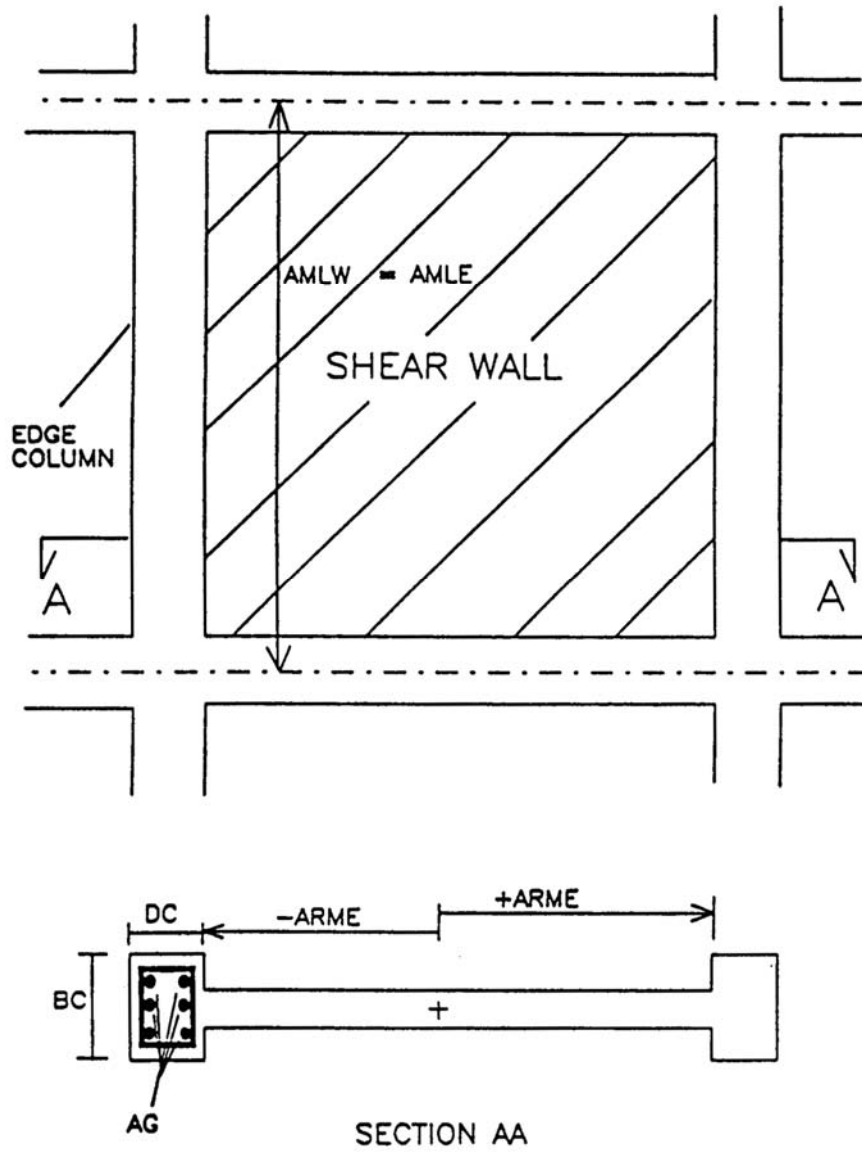

Fig. A-13 Shear Wall and Edge Column Details
**SET G: EDGE COLUMN PROPERTIES SETS** (SEE FIGURE A-13)